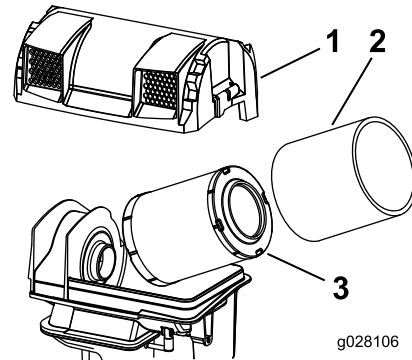

Figure 58
3. Remove the foam and paper elements (Figure 58).
4. Remove the foam element from the paper element (Figure 58).
- Install the elements onto the air-cleaner base (Figure 58).